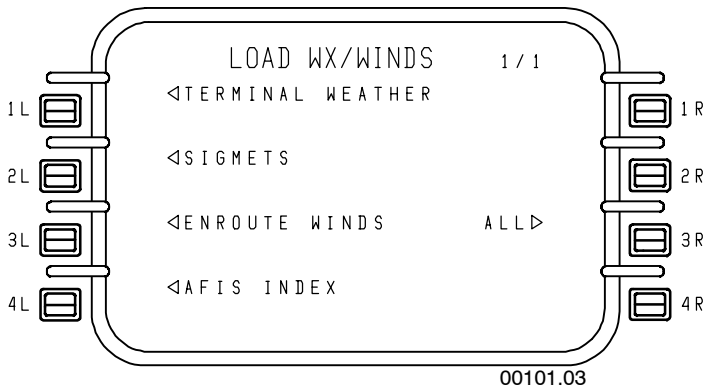

Figure 6-49
- **LOAD WX/WINDS 1/1** - Figure 6-49 is used to load weather and wind information from an AFIS disk. The page lists the types of information available from the disk.